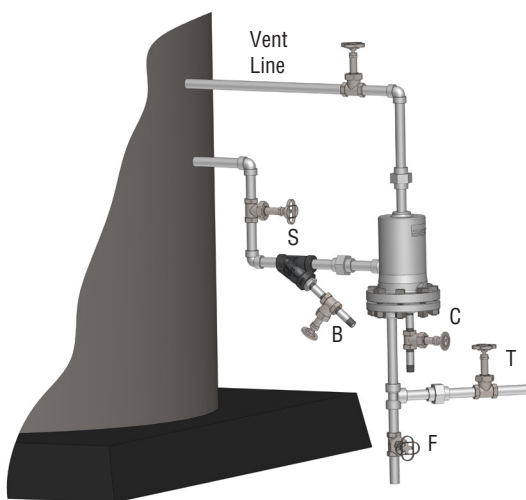

Fig. 1
**3** On medium and heavy loads, and where there is horizontal drain piping, install the drainer with a vent line as shown in Fig. 1. In order for liquid to enter the drainer in this piping configuration, noncondensable gases must be backvented. Without the vent line, these gases would not be displaced and liquid would back up in the inlet piping. Install a strainer if scale or grit are present, as they may prevent proper seating of the valve. **Blowdown** valve “C” and test valve “F” are important for checking drainer operation.